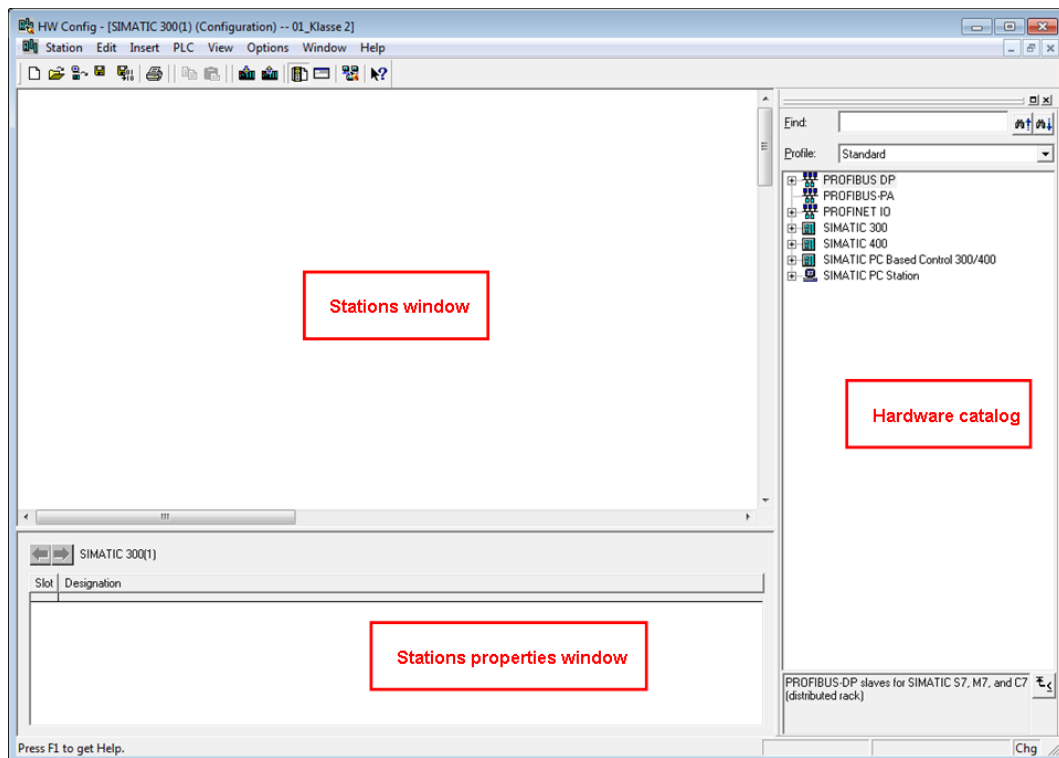

Figure 2.2: Hardware-Konfigurator – STEP 7
- The WDGA encoder appears in the "Hardware catalog" under "PROFIBUS-DP", "Other field devices", "encoder", "Wachendorff Automation", "WDGA PROFIBUS Class4" (see Figure 2.2).